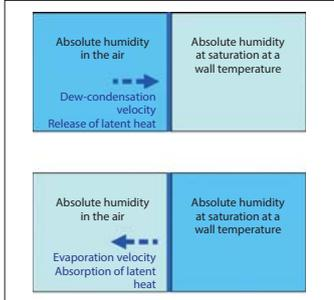

Figure 1: Dew condensation rate
- As shown in Figure 1, when the absolute humidity in the air is greater than the saturated absolute humidity at the wall temperature, dew condensation rate [kg/(m²·s)] rises and heat of 2,500 [kJ/kg] corresponding to the latent heat is generated.